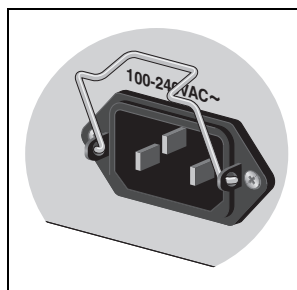

Figure 28. Power Cord Retaining Clip in the Up Position
1. Position the power cord retaining clip in the up position, as shown in Figure 28.